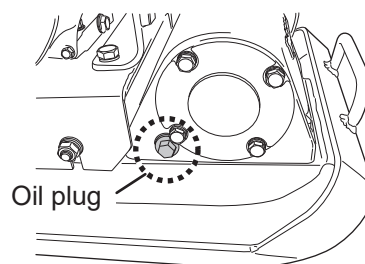

Fig.1
6. Place the plate compactor on the level surface. Check the vibrator oil level by removing the oil plug. (Fig.1)